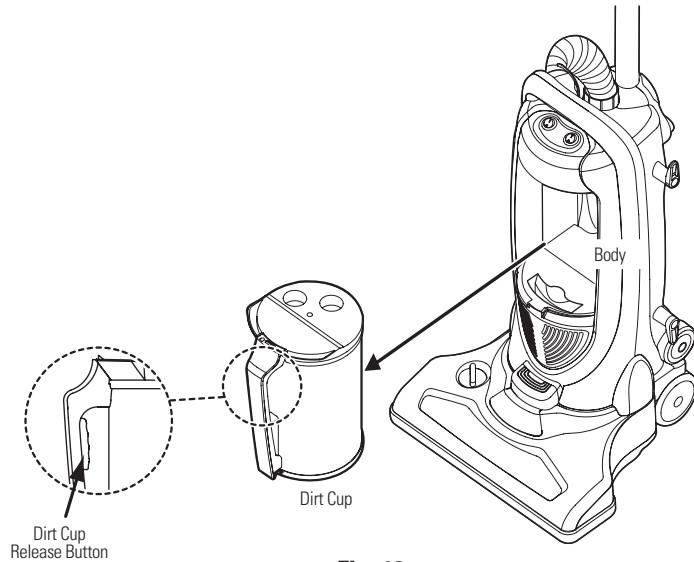

Fig. 19
- Grasp the dirt cup handle and depress button, pull out the dirt cup from the body. (Fig. 19)